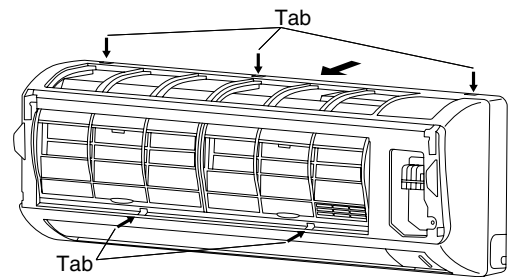

Fig. 3-87
- (3) Press the 3 tabs at the top of the grille and the 3 tabs on the front face to separate the grille from the frame. (Fig. 3-87)
- (4) Pull the grille toward you to remove it.